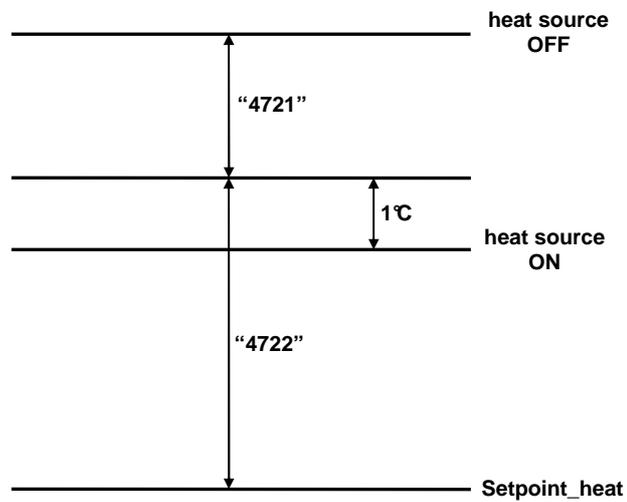

Figure 56 Use of sensors B4 and B41 to turn the heat source ON/OFF
values drop below the heating setpoint plus the value of parameter “4722” minus 1°C (see Figure 56 a pagina 63).
- the sum of the values of parameters “4722” and “4721” defines the point at which the heat generator is switched off (see Figure 56 a pagina 63) and:
- The value of parameter “4721” + 1°C defines the differential between switching on and off (see Figure 56 a pagina 63) and: